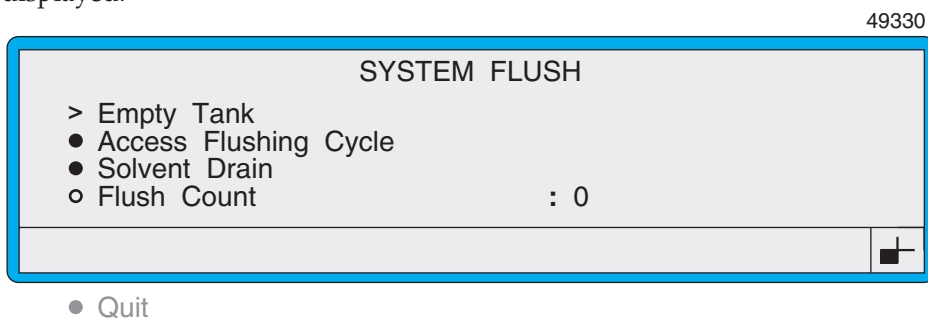

Figure 4. System Flush Menu: Sequence Options
- 12 On completion of the Empty Tank sequence, the display reverts to the sequence options menu (Figure 4).
- 18 Once solvent has been added to the ink tank, select the OK option by pressing the [enter] key, which starts the Flush Cycle and displays the following screen and status line message. The Flush Cycle runs for approximately 1 minute and 40 seconds, and automatically stops on completion. The sequence can be stopped before completion by selecting the Stop option, in which case the Flush Count option in the sequence options menu (Figure 4) is not incremented: